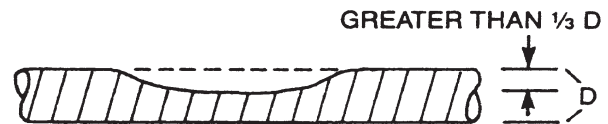

Figure: 5-2 – Repair Necessary. Significant Damage to the Tubing Due to Impact or Crushing
- a. The tubing has been significantly crushed or dented Figure: 5-2.